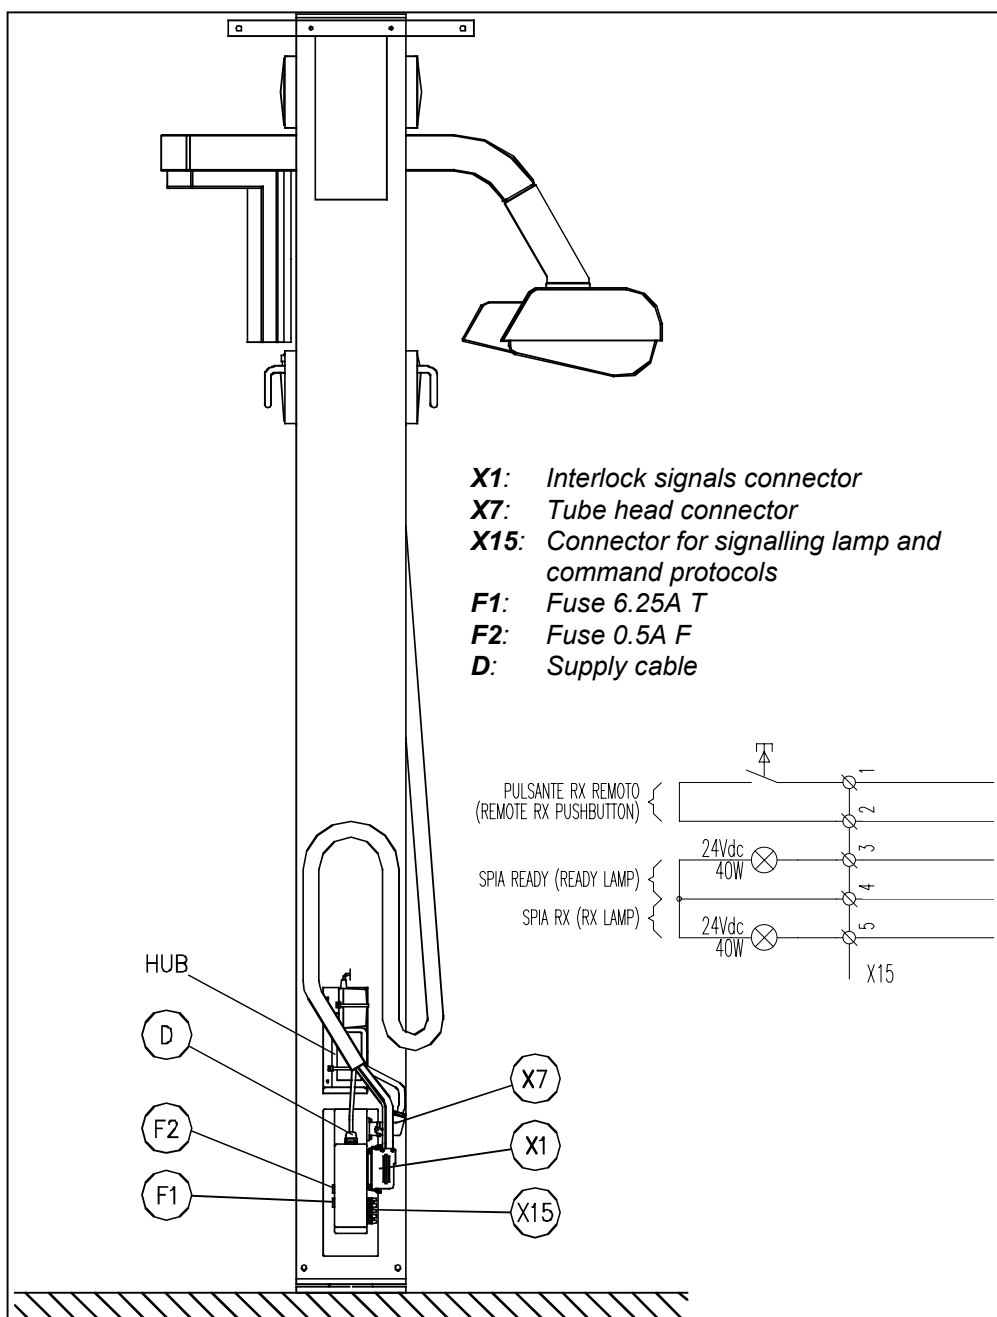

Figure 6-7
The electrical connection has to be made on the X15 terminal (refer to Figure 6-7 and the general wiring diagram at chapter 9.).
- 14.** Install the HUB support (normally supplied with the accessories) in the rear part of the column as shown in Figure 6-7, tightening it with the two screws; fix the cables dedicated brackets.
- 16.** Fix the cables routing it as shown in Figure 6-7.